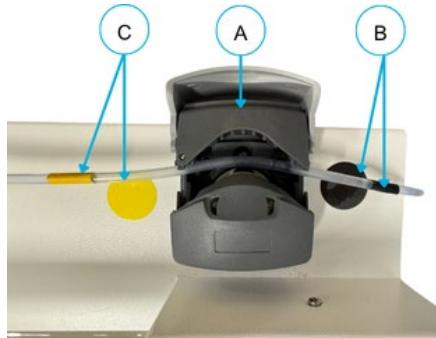

Figure 11-1: Perineal Saline Color Indicators
3. Place the Saline Needle Tubing line in the Perineal Saline Pump (A) on the top back side of the Generator (**Figure 11-1**).
- Match the Yellow (C) and Black (B) color indicators on the Generator and Saline Needle Tubing to guide placement